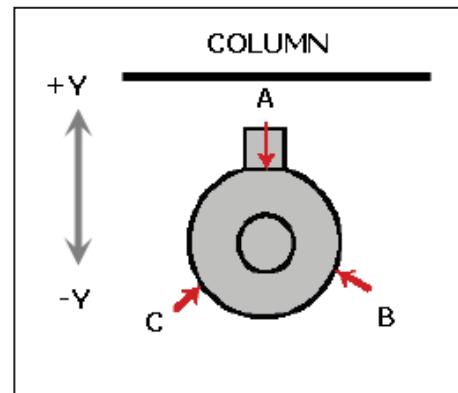

Figure 8.10
- a. Orient the probe in the spindle so one of three adjustment screws is opposite the machine column (see **Figure 8.10**). Label this Screw A.